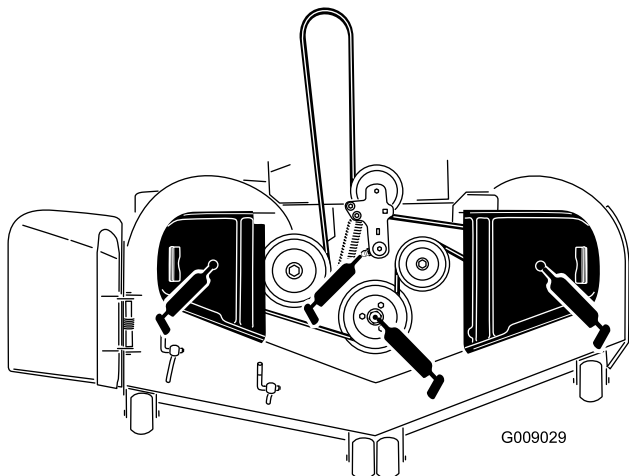

Figure 1
3. Grease the mower-deck idler pulley pivot until grease comes out the bottom (Figure 1).
4. Grease the 3 spindle bearings until grease comes out the lower seals (Figure 1).